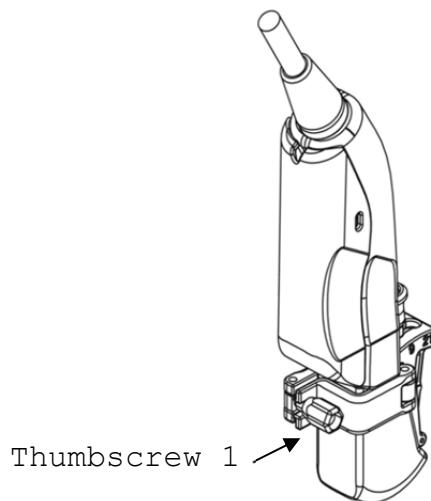

Fig.11 Fitting the needle guide bracket
- 2) Fit the recess of the bracket to the thumbscrew 1 and tighten the thumbscrew 1. (See Fig.11) At this time, be sure to attach the needle guide bracket so that the needle guide attachment area is positioned in the same direction as that of the needle guide bracket mount part side.